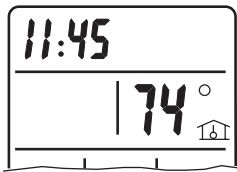

Fig. 10 — Room Air Temperature Indicator on Remote Control Display
2. Press the ROOM button. The current room air temperature will be displayed for several seconds, then disappear. See Fig. 10.